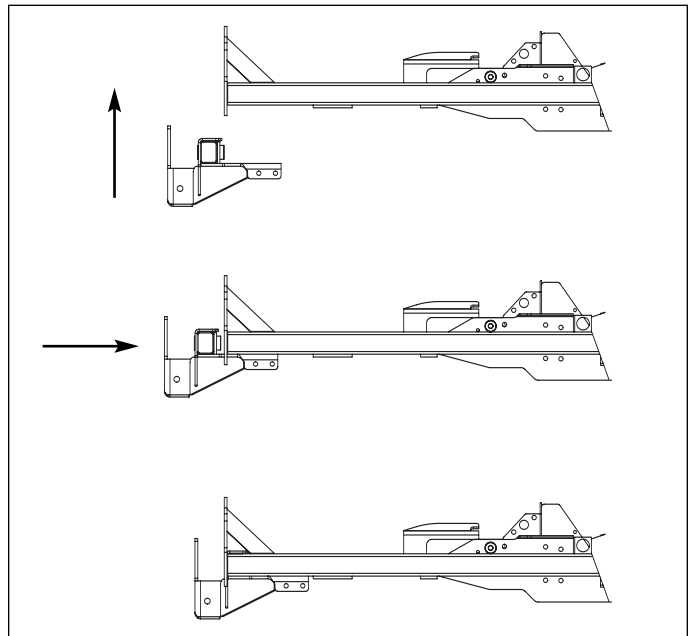

Figure 5. Install New Front end
8. Position from the bottom the new front end against the frame as shown in Figure 5. Then slide toward the rear of the machine until the c-channel of the new front end rests over the front cross member that was cut.